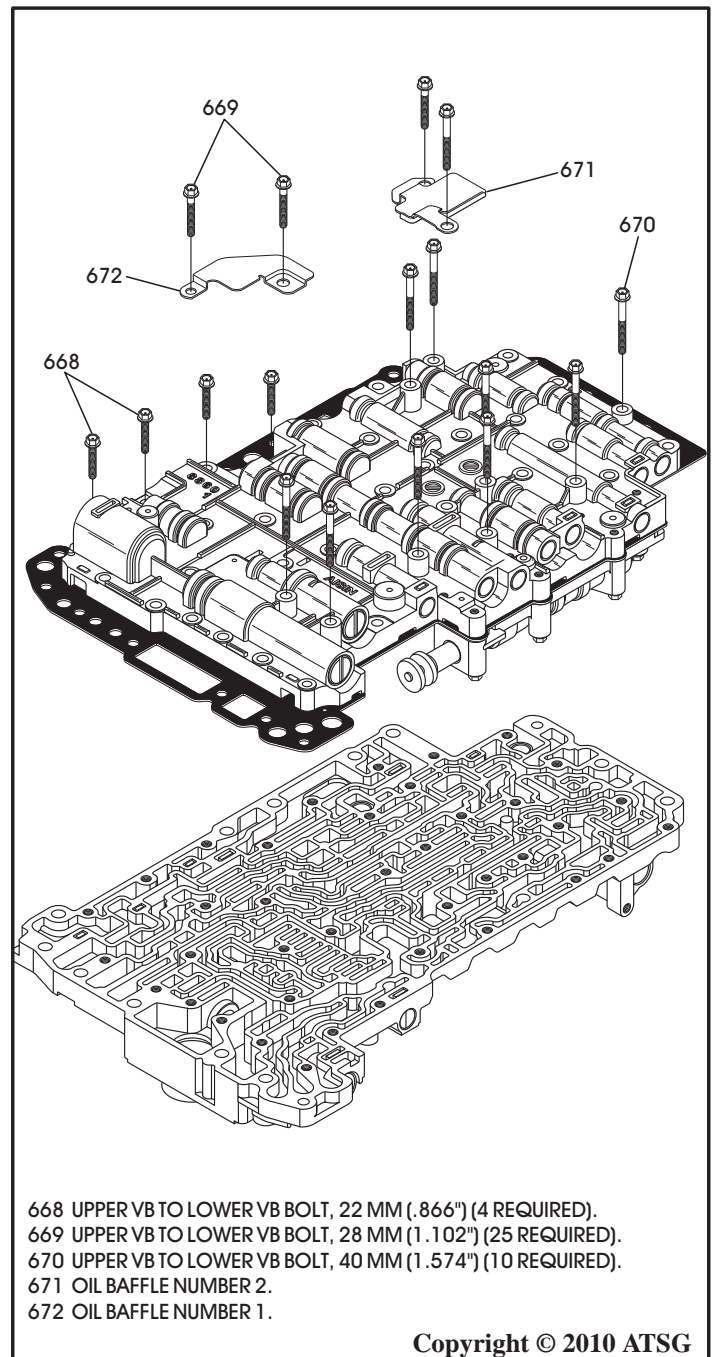

Figure 168
4. Turn the valve body assembly over, as shown in Figure 168.
5. Remove the 39 upper to lower valve body bolts, as shown in Figure 168.
Note: There are three different lengths of these bolts See Legend in Figure 168.
6. Remove the two oil baffles, as shown in Figure 168.